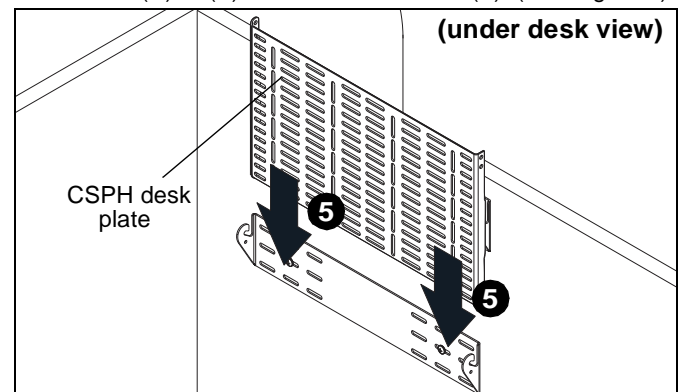

Figure 4
5. Slide CSPH desk plate onto back desk bracket (B) until two screws (C) or (E) sit in slots of bracket (B). (See Figure 4)